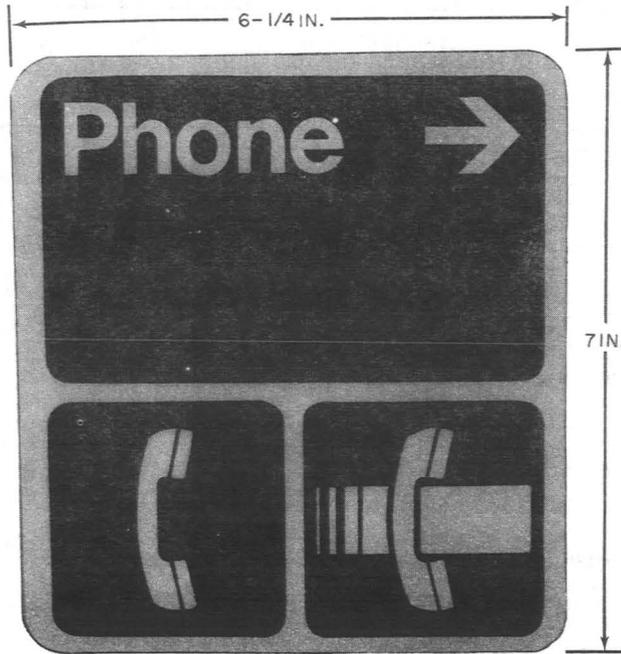

Fig. 13—KS-20064, List 12A Sign
(l) KS-20064, List 12A (Fig. 13):
- Same as List 12A (Fig. 13) except has blue graphics on white background.